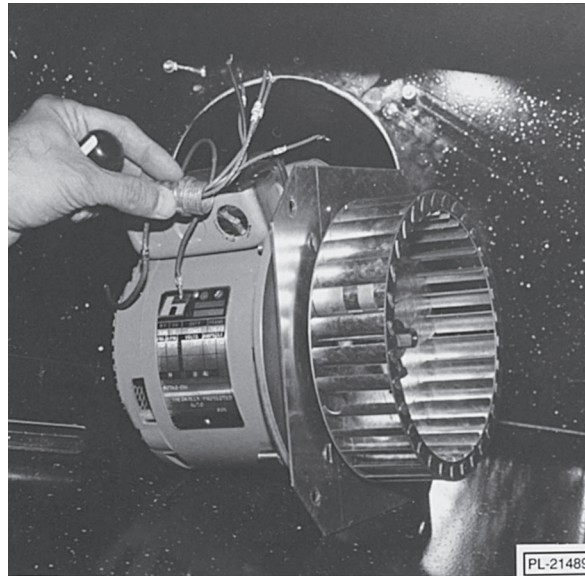

Fig. 59
11. Disconnect conduit wire connector from motor assembly (Fig. 59).